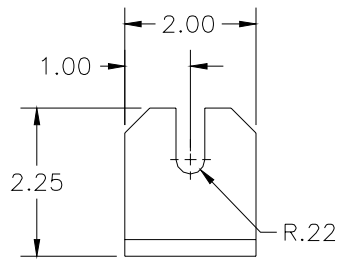
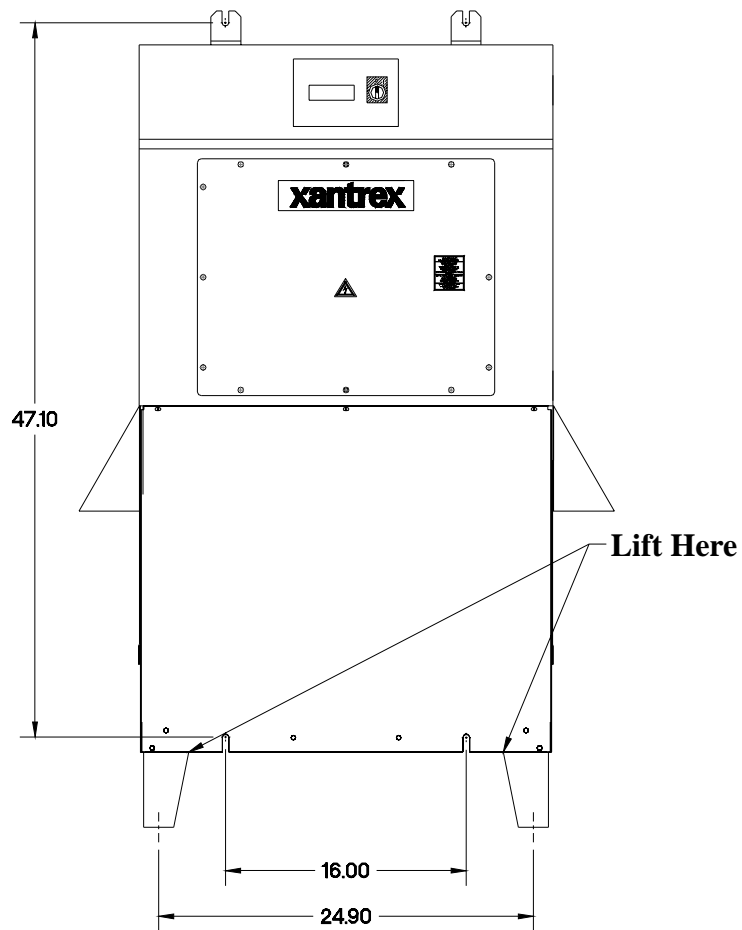

Figure 3-1
Figure 3-2
1. Move the PV-45208 into place. Lift the PV-45208 from beneath the lower enclosure with a forklift as shown in **Figure 3-2**. (See following page.)
2. Place the PV-45208 bottom mounting ears, shown in **Figure 3-1** and **Figure 3-2** onto installed lag bolts. (See following page.)